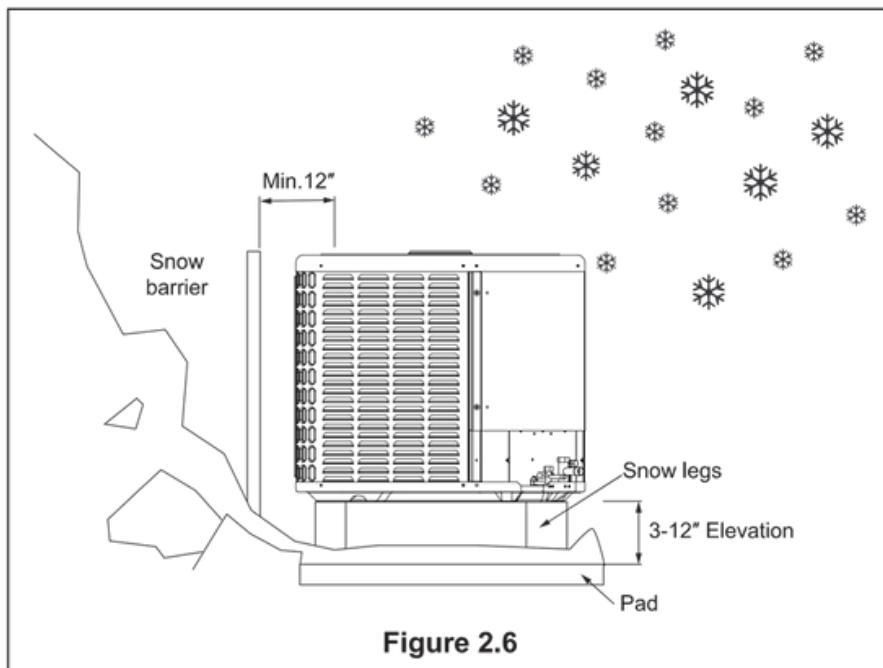

Figure 2.6
- Depending on the local weather conditions, the unit should be raised by 3-12 inches. This extra height will allow the snow and ice melted during the defrosting cycle to be discharged before re-freezing. Make sure that the drain hole on the unit chassis is not blocked, otherwise it will hinder the defrosting water discharge (Figure 2.6).